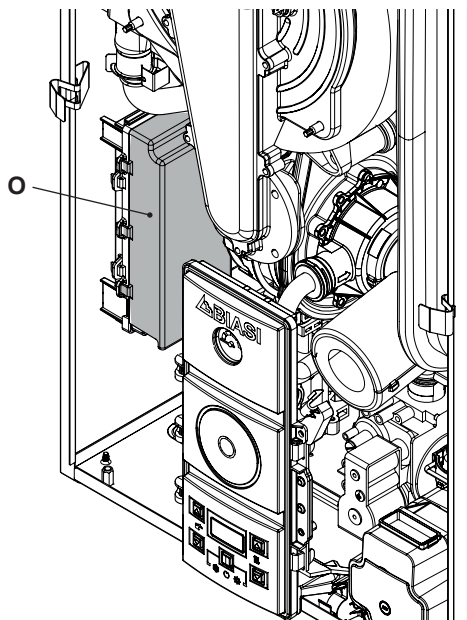

Fig. 6.15
- Identify the terminal block cover lid "O" (Fig. 6.15) and open it.